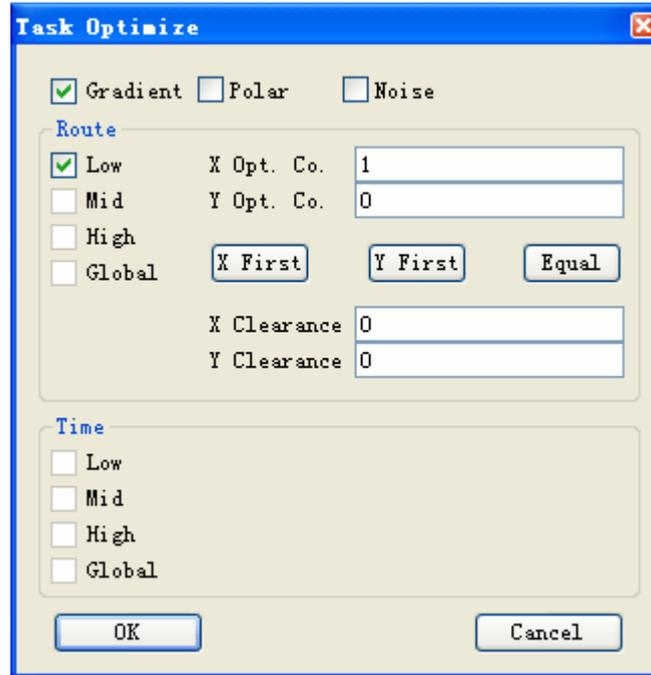

Figure 6-12 Set Optimize
7. Optimize the gradient and the path: click the **Optimize** button, a optimization setting dialog box pop, likes the Figure 6-12 shows: